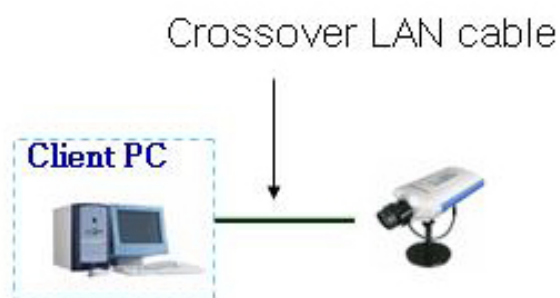

Figure 3-4. Direct connection using crossover LAN
2. Setup network parameters by running "IP-Installer". {Refer to Figure 3-4}.